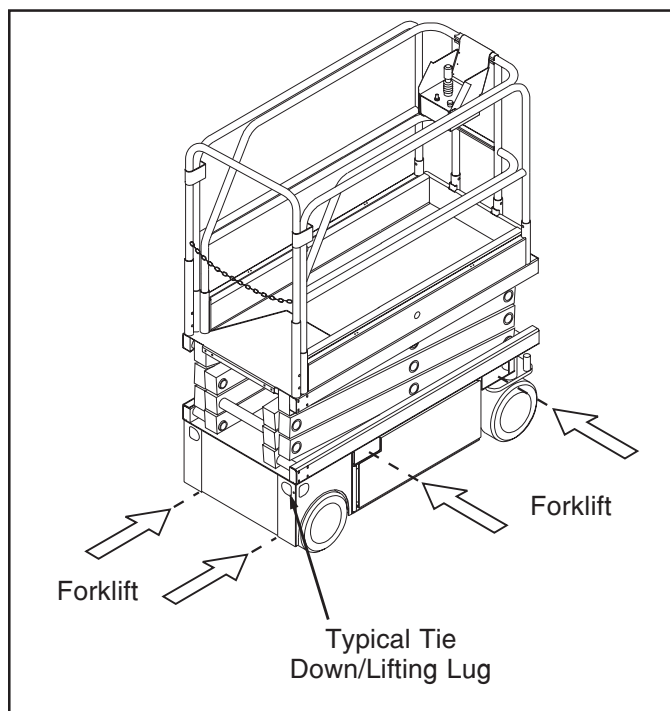

Figure 5: Transporting Work Platform
Forklift from side or rear using fork pockets provided (Figure 5).
1. Secure straps to chassis lifting/tie down points only (Figure 5).
2. Secure the work platform to the transport vehicle with chains or straps of adequate load capacity attached to the chassis lifting/tie down points (Figure 5).